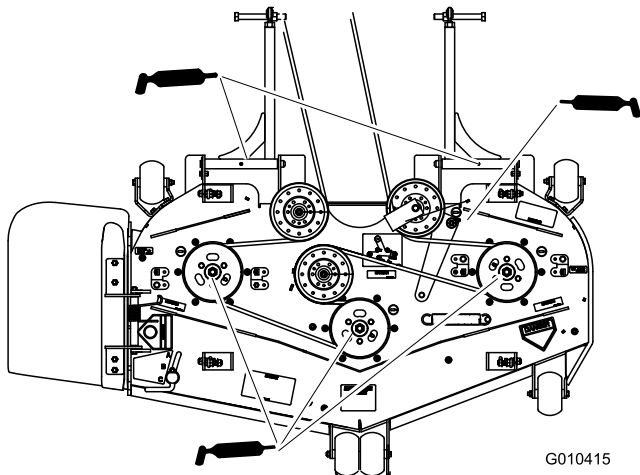

Figure 35
3. Grease the idler pulley pivot (Figure 35).
4. Grease the fittings on the 3 spindle bearings (Figure 35).